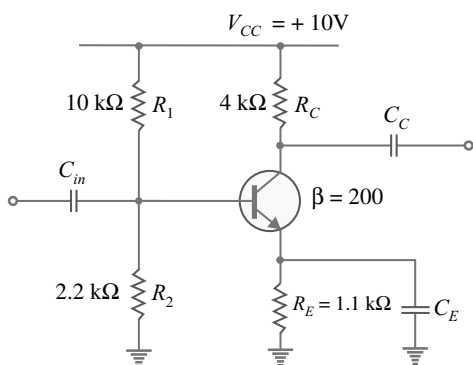
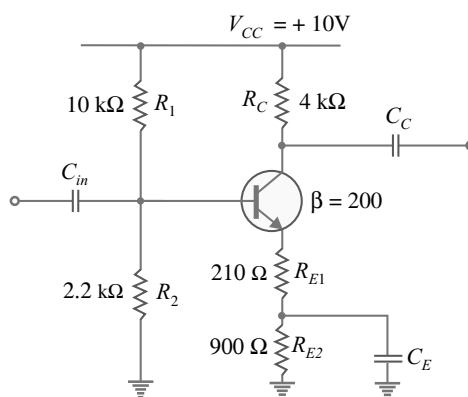

Fig. 8.50
Fig. 8.51
**Example 8.29.** Fig. 8.50 shows the circuit of a \*\*standard CE amplifier. The emitter circuit of this amplifier is swamped as shown in Fig. 8.51. Find :
For the standard *CE* amplifier shown in Fig. 8.50, we have,
For the swamped amplifier shown in Fig. 8.51, we have,
For the swamped amplifier circuit shown in Fig. 8.51, we have,
For the standard *CE* amplifier shown in Fig. 8.50, the voltage gain ( $A_{v0}$ ) is given by ;
For the swamped amplifier shown in Fig. 8.51, the voltage gain ( $A_{v0}$ ) is given by ;